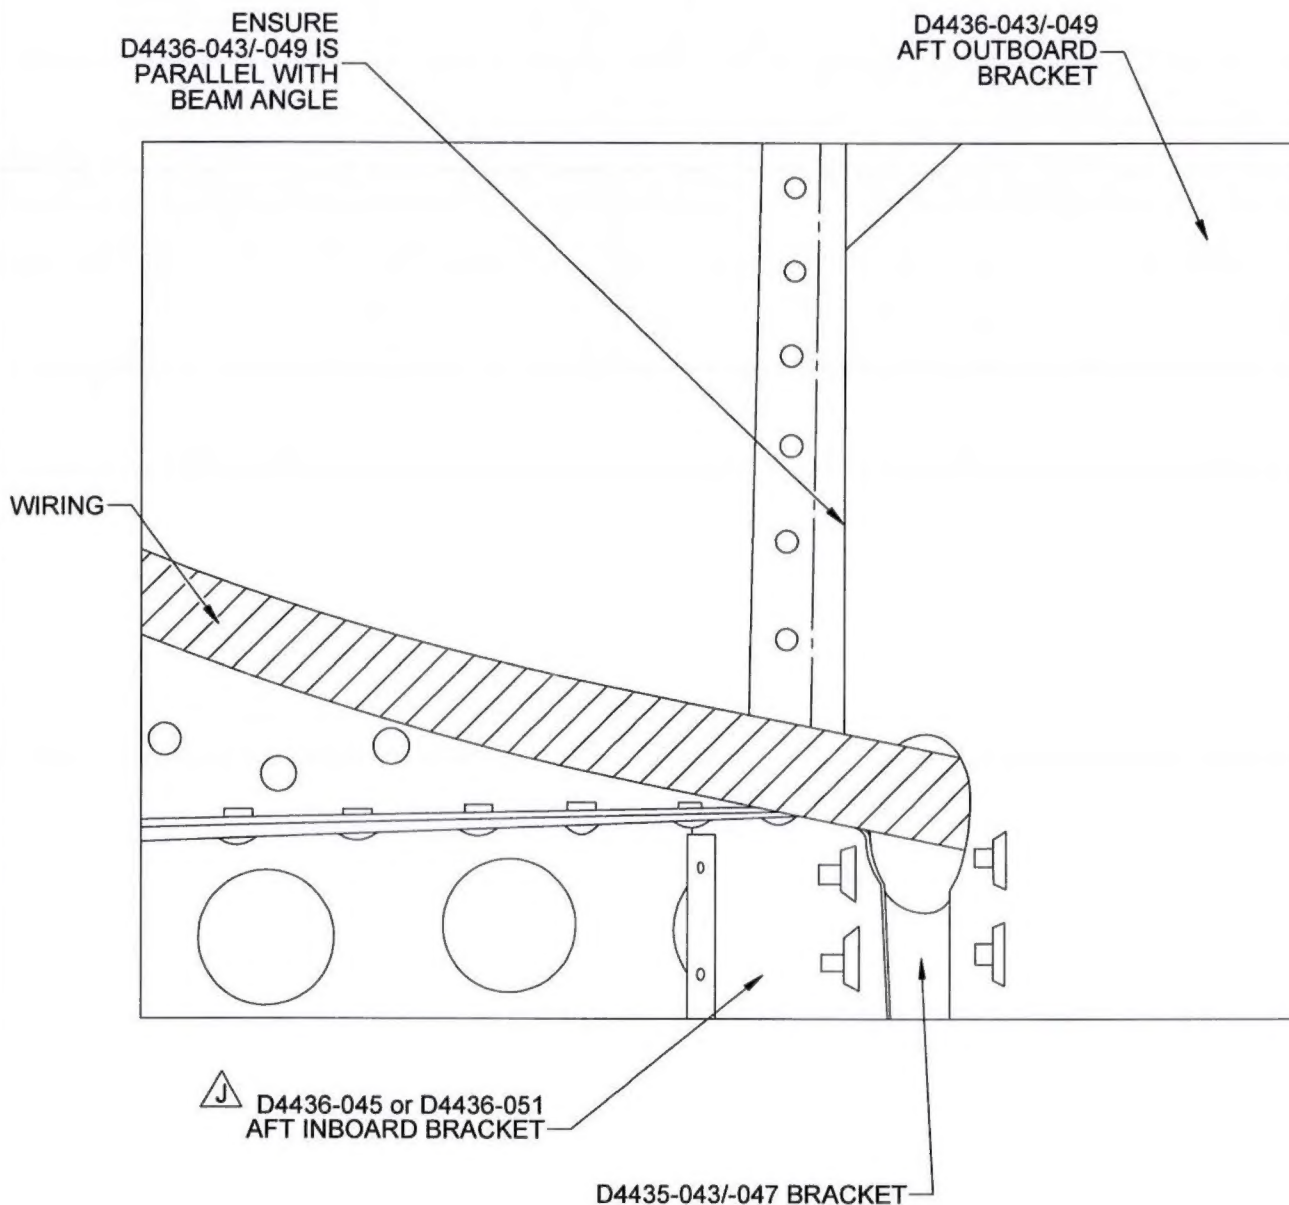

**Figure 3. D4436-043/-049 Aft Outboard Bracket Installation** ⚠
- Position the D4436-043/-049 Aft Outboard Bracket so the flange contacts the main beam as shown in Figure 3.